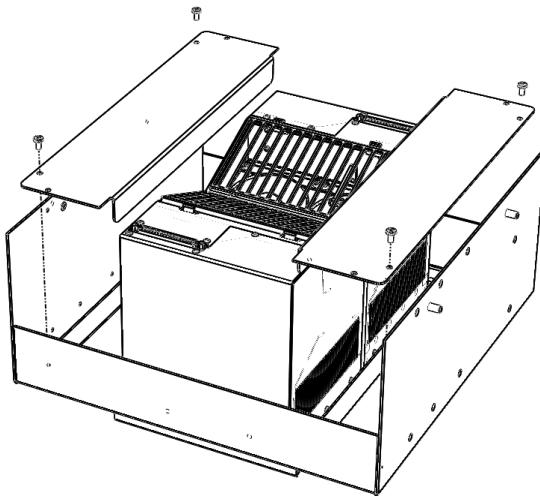

Figure 10. Install Cradle Adapter Plates, In-Line Position
4. Insert a Side Plate on both sides of Cradle Adapter Plate. The Side Plate bend will fit over and into the Adapter Plate. Secure both Side Plates with M4 x 8-mm screws. (Figure 10 & 11)